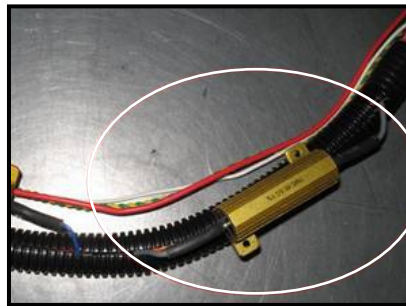

FIG 1 | *Circled resistor to be removed*
- STEP 3 (fig 1)** Locate the large gold resistor in the wiring harness situated 6" from grey 24 pin controller connector. It will have a grey wire connected to either side of it. Note: There is an identical gold resistor located 12" from the grey connector that has a dark blue wire connected to either side. This one must be left alone for this modification.